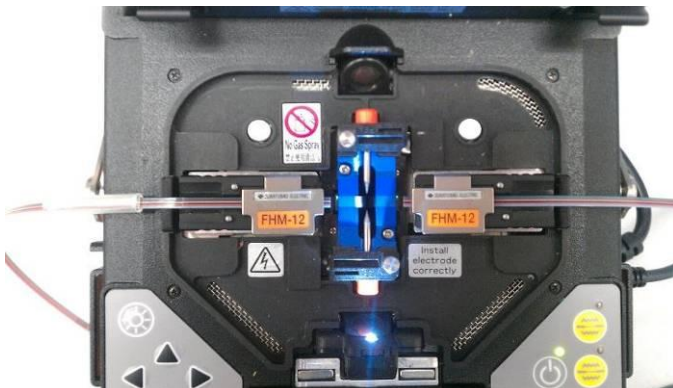

Figure 4
- Step 4:** Match the marked ribbon with the marked ribbon and non-marked ribbon with the non-marked ribbon and splice following company practice or industry standard splicing procedures (**Figure 4**).